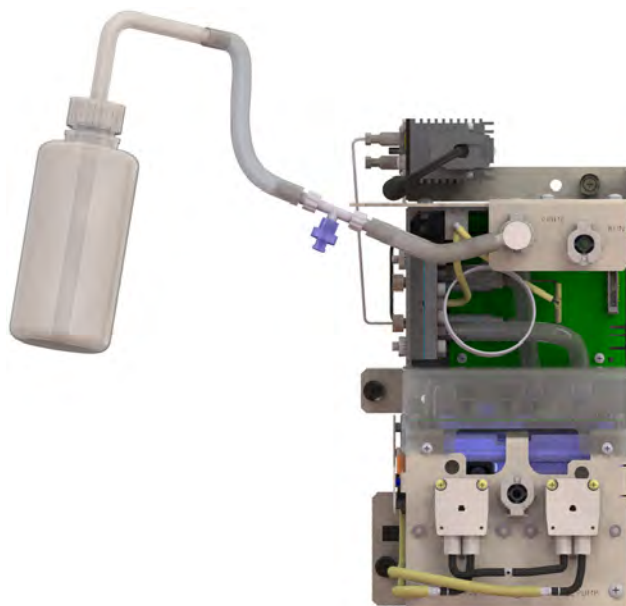

Figure 60: Filling the DI Pump
3. Insert the elbow-fitting end of the filling fixture into the *Prime* outlet. (Figure 60).